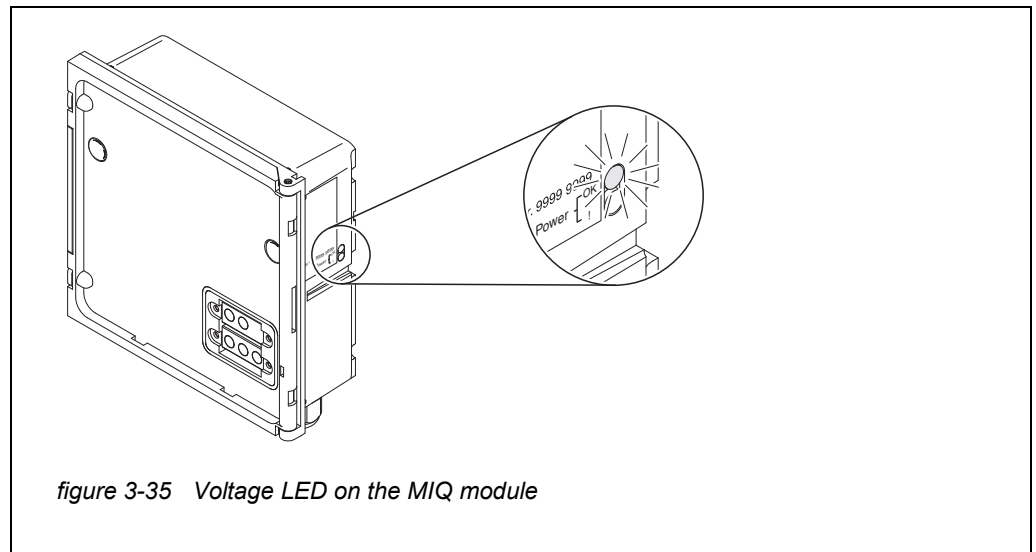

figure 3-35 Voltage LED on the MIQ module
- 1 Check the status of the LEDs on the MIQ power supply modules (figure 3-35):
- 3 Check the status of the LEDs on all MIQ modules (except for the MIQ power supply modules, see step 1) (figure 3-35):